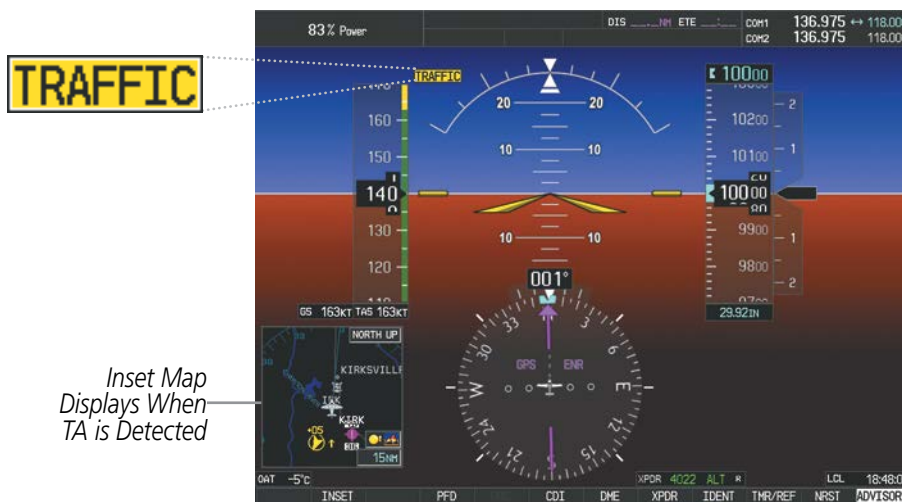

Figure 6-195 Traffic Annunciation (PFD)
- A ‘TRAFFIC’ annunciation appears at the top right of the airspeed on the PFD, flashes for five seconds, and remains displayed until no TAs are detected in the area (Figure 6-195).